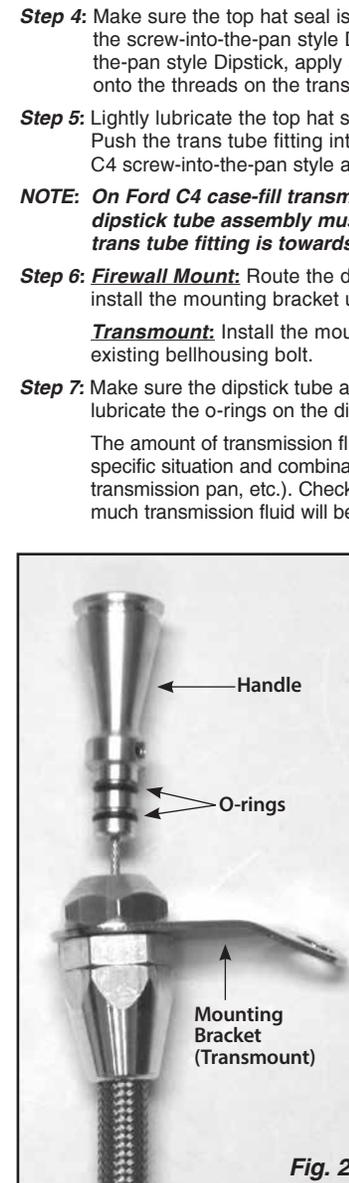

Fig. 2
**Step 7:** Make sure the dipstick tube assembly is not touching the exhaust at any point. Lightly lubricate the o-rings on the dipstick handle with clean transmission fluid. **Fig. 2**